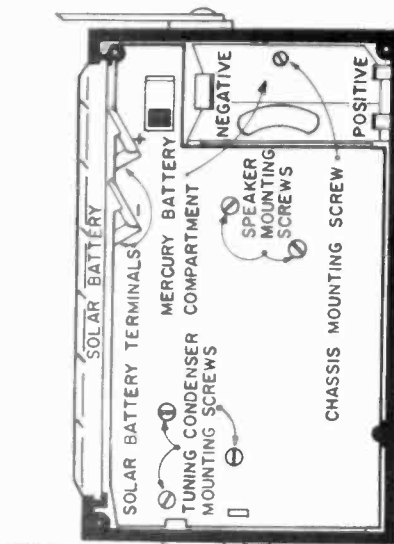

FIG. 2 - REAR VIEW - BACK COVER REMOVED
6. Remove the slotted head screw in the Mercury Battery compartment (See Fig. 2). The entire chassis may now be lifted from the case.